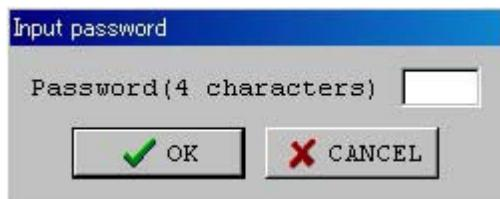

Fig. 16.2 Input Password Window
- (1) Right click a blank part of the toolbar (Appendix Fig. 16.1) while pressing the **Ctrl** key, then input password window as shown in Fig. 16.2 is displayed.